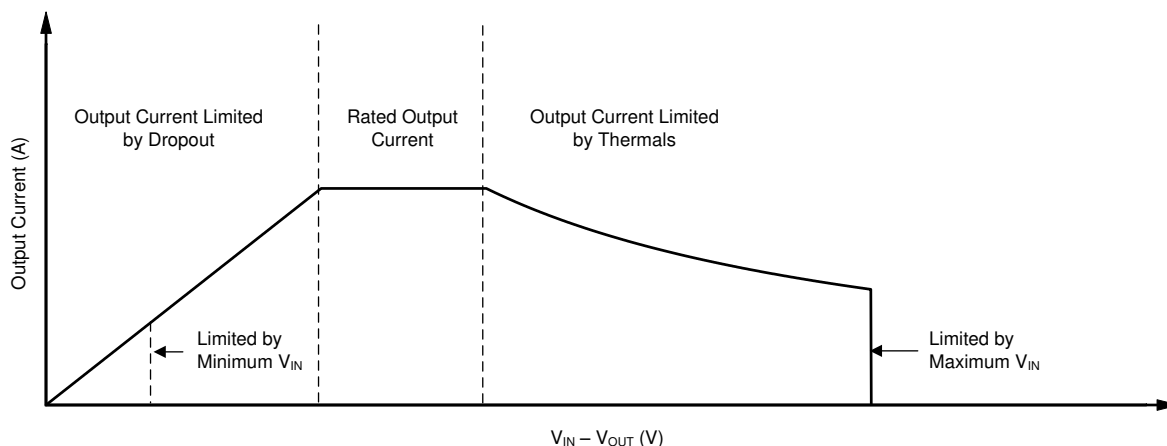

图 8-3. Continuous Operation Diagram With Description of Regions
The operational area of an LDO is limited by the dropout voltage, output current, junction temperature, and input voltage. The recommended area for continuous operation for a linear regulator is shown in Figure 8-3 and can be separated into the following regions:
- Figure 8-3 provides the shape of the slope. The slope is nonlinear because the maximum rated junction temperature of the LDO is controlled by the power dissipation across the LDO; thus, when $V_{IN} - V_{OUT}$ increases the output current must decrease.